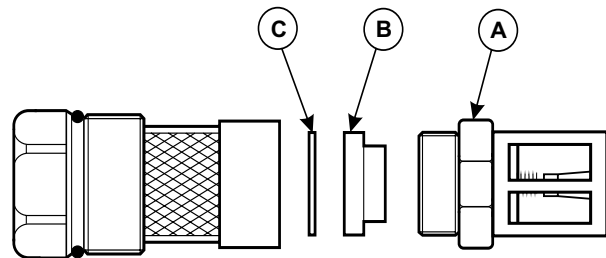

**Fig. 3**
**4.3 CONVERT THE BOILER FOR FITTING THE COMBIMAX - Figs. 3, 4, 5 and 6**
1. Lower the front cover and loosen the two fixing screws securing the control panel as shown in Fig. 3.
2. Remove the left hand side panel of the boiler by removing the top and two bottom screws as shown in Fig. 3.